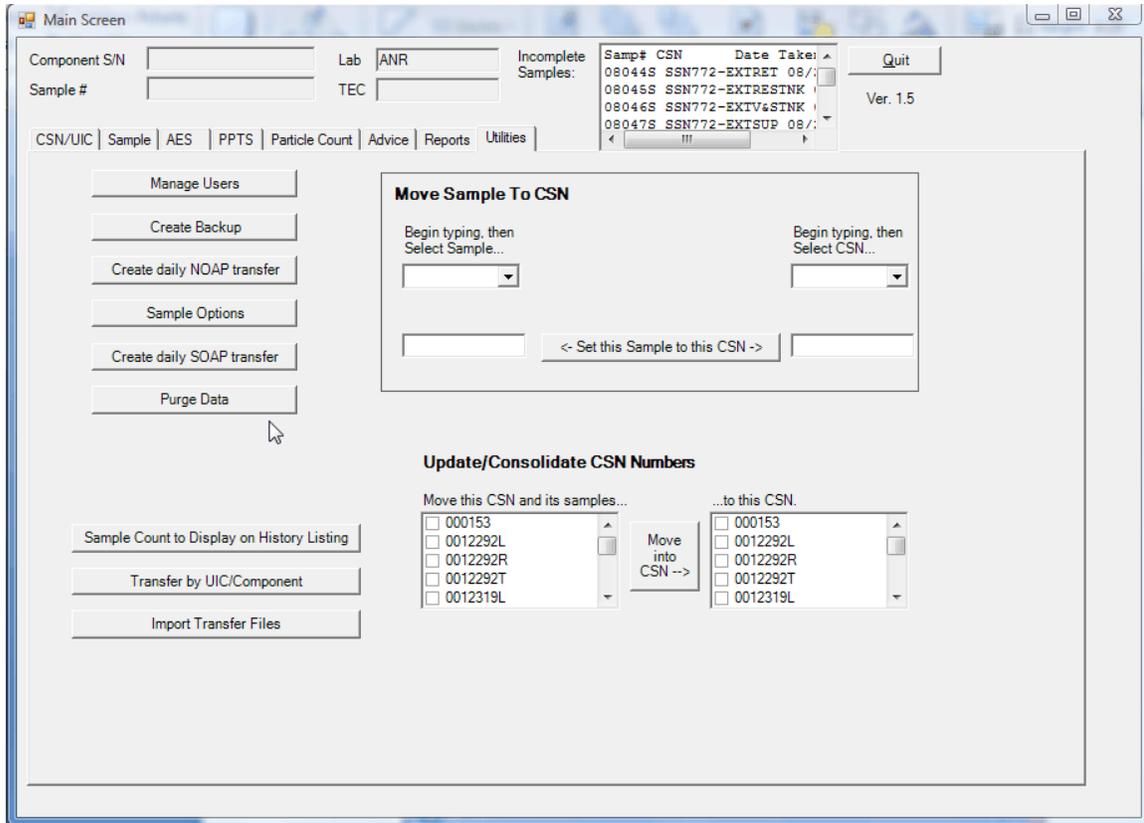

Figure 104. Utilities Tab
- (2). Press set the sample to this CSN (Figure 104).